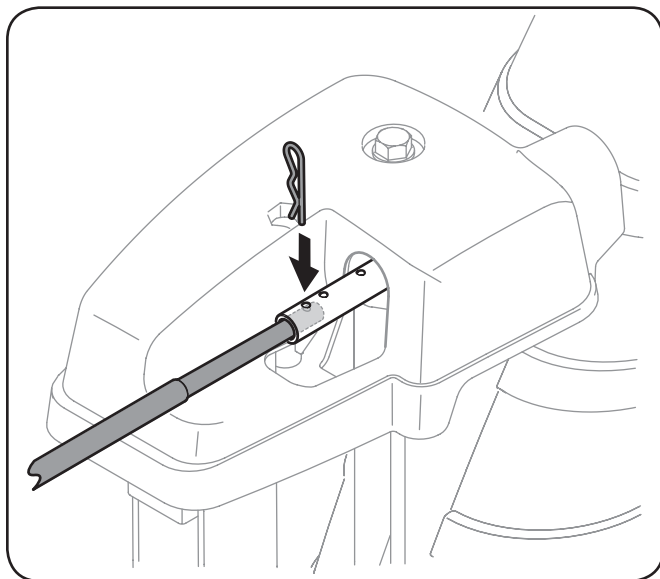

Figure 6-6
2. Pull out the chute control rod until the hole in it lines up with the hole furthest from the chute assembly on the chute rotation assembly. See Figure 6-6.